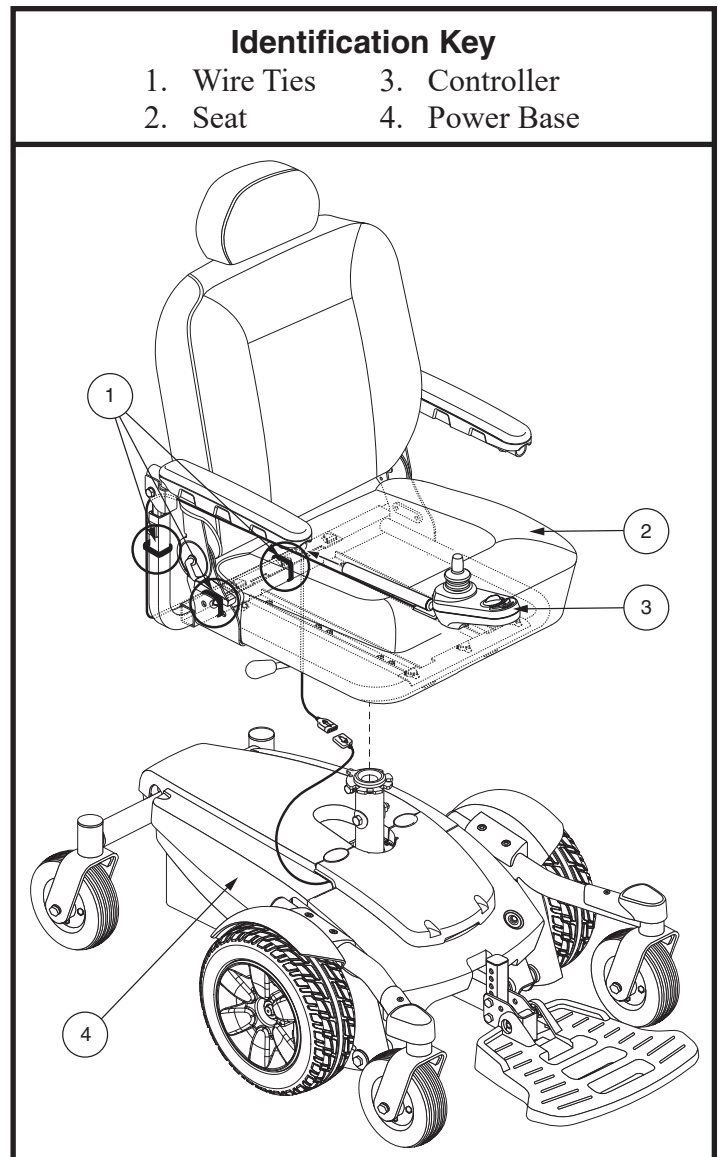

Figure 9. Seat and Controller Assembly
1. Slide the seat down onto the power base. See figure 9.
3. Lift the armrest straight up, then route the controller harness and secure with wire ties as shown in figure 9.